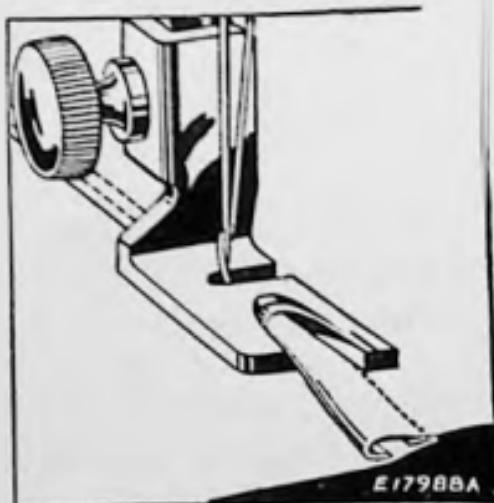

FIG. 40. MAKING A FELLED SEAM
(2) Open the work out flat, wrong side up, and hem the free edge of the seam, stitching it flat to the garment as shown in Fig. 40.